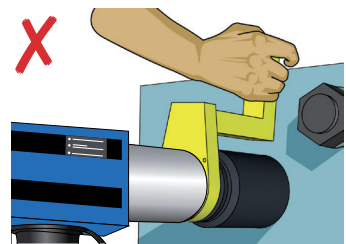

Figure 6C
**WARNING:** Always keep your hand and body parts clear of the reaction arm and barrel when the tool is in operation (Figure 6C).